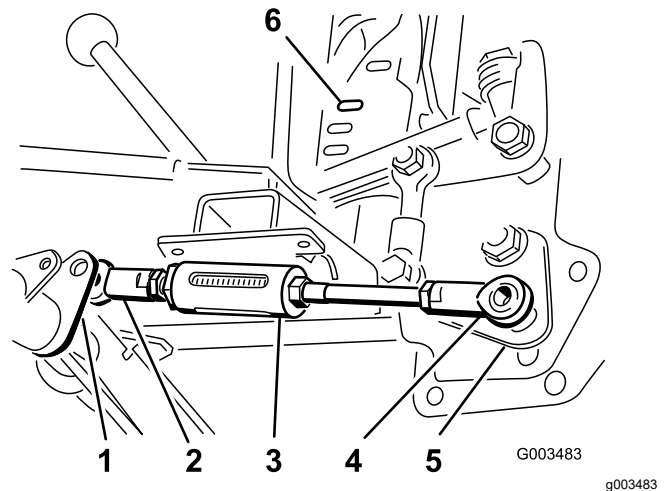

Figure 7
1. Position the ball joint of the short end of the adjustable rod assembly to the right of the adjustable rod lever on the pivot tube (Figure 7).
3. Place the ball joint on the long end of the adjustable rod assembly over the stud on the bottom on the lift handle assembly and loosely secure it with a locknut (1/2 inch) (Figure 7).